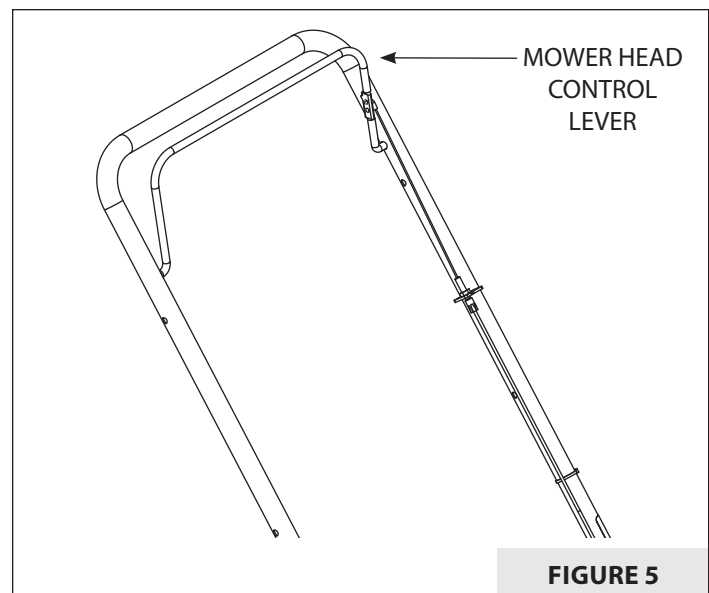

FIGURE 5
1. To engage the mower head, hold the control lever against the handle. The faster the engine runs, the faster the mower head will rotate. **SEE FIGURE 5.**